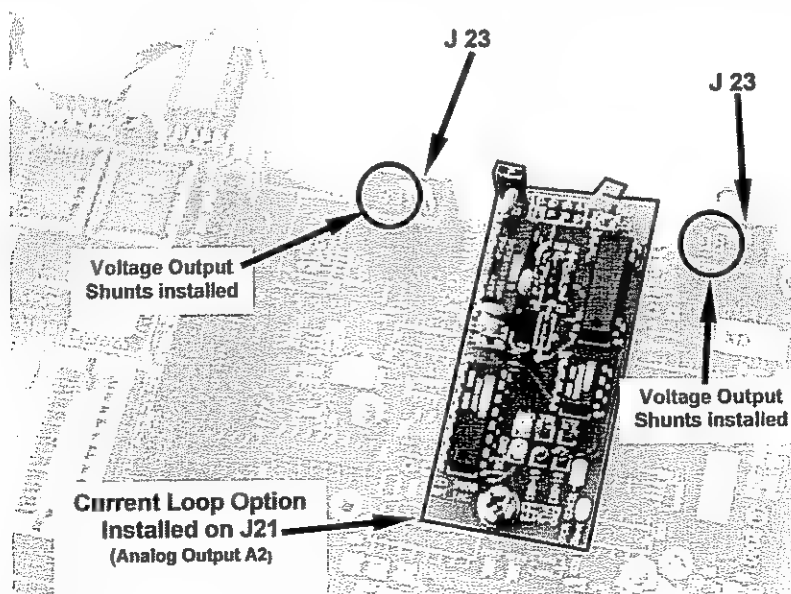

Figure 5-1: Current Loop Option Installed on the Motherboard
5. Place a shunt between the leftmost two pins of the connector (see Figure 5-1).